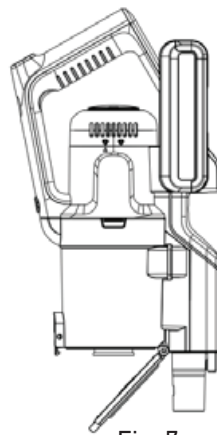

Fig. 7
1. Position the dust container over a refuse bin, then press the lever at the front of the container to open the base (Fig. 7) and empty the container. Gently tap the container against the side of the bin to remove any stubborn dust.